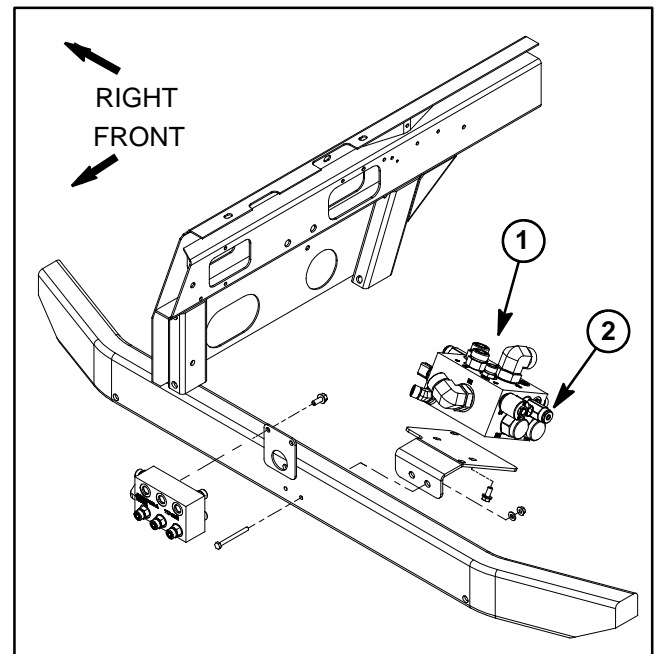

Figure 34
3. Measure and record traction circuit pressure reducing valve (PR) pressure (see Traction Circuit Pressure Reducing Valve (PR) Pressure Test in this section).
4. Connect a 1000 PSI (70 bar) pressure gauge to test fitting (port G) on rear side of 4WD/2WD control manifold under front of machine (Figs. 34 and 35). This is the same pressure gauge position as used to measure traction circuit pressure reducing valve (PR) pressure.
7. Operate the machine in mow speed (4WD) with the cutting units lowered. Drive down a slope in a forward direction and decrease pressure on the traction pedal while carefully monitoring the pressure gauge. Pressure should increase until relief valve (RV) lifts.
9. Relief (RV) pressure should be **at least 100 PSI (7 bar) higher than the traction circuit pressure reducing valve (PR) pressure and also be between 520 and 570 PSI (36 to 39 bar)** (e.g. if the pressure reducing valve (PR) pressure is 450 PSI (31 bar), relief (RV) pressure should be from 550 to 570 PSI (38 to 39 bar)).
10. If specification is **not** met, clean or adjust relief valve (RV) which is located on the left side of the 4WD/2WD control manifold in the RV port (Fig. 34) (see Adjust Control Manifold Relief Valves in the Adjustments section of this chapter for valve adjustment procedure). Recheck relief (RV) pressure after adjustment.